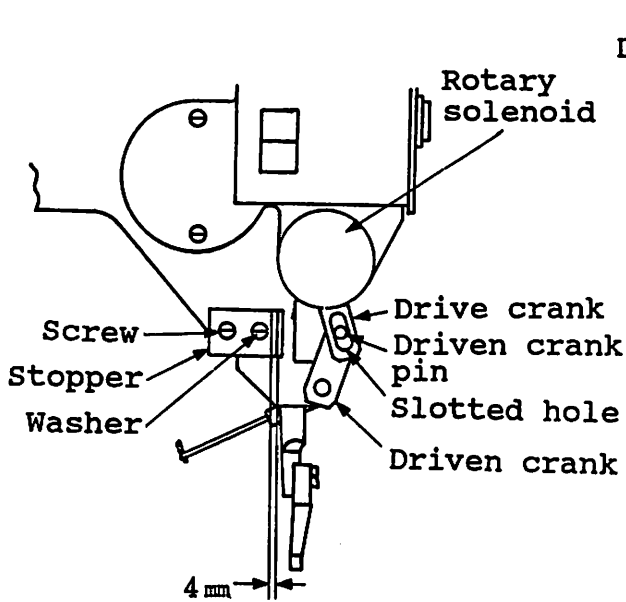

Fig. 9.12
- (1) Loosen the set screw of the rotary solenoid drive crank.
- (2) Adjust the clearance between the bent part of the stopper and washer to approximately 4 mm, as shown in Fig. 9.12, and secure the stopper.
- (3) Locate the wiper drive crank so that the driven crank pin is at the center of the slotted hole of the drive crank, as shown in Fig. 9.12.